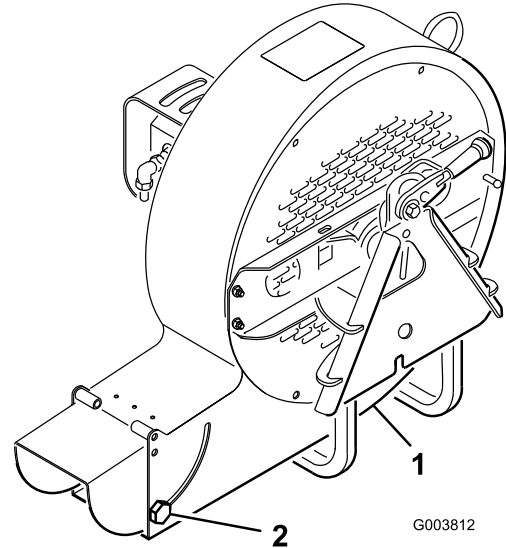

Figure 7
The discharge opening (Figure 7) is adjustable to increase or decrease air output velocity and volume. Decreasing the discharge opening size increases the velocity.
1. Loosen discharge opening deflector mounting screws (Figure 7).